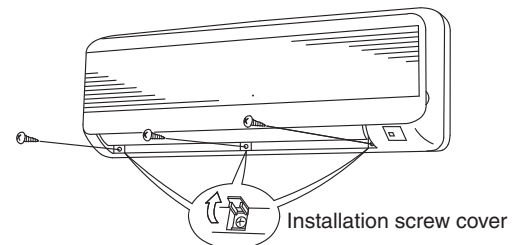

Fig. 3-160
- (3) Adjust the flap so that it is horizontal. (Fig. 3-160)
- (4) Open the installation screw covers below the grille (3 locations). (Fig. 3-160)
- (5) Remove the screws. (Fig. 3-160)